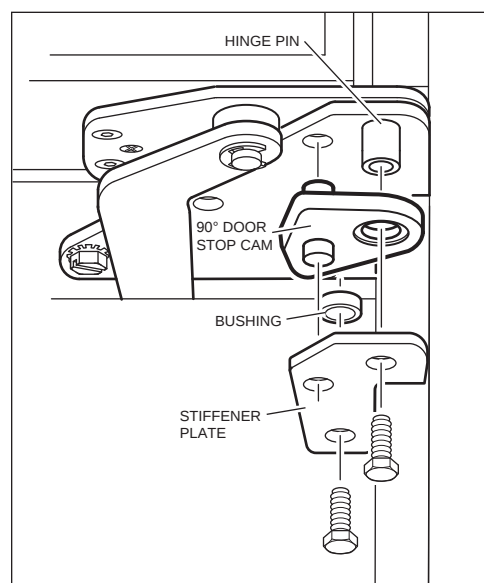

Figure 2-14. 90° Stop Cam
- With door closed, extract bolts, stiffener plate and bushing from lower cabinet hinge (See Figure 2-14).
- Place door stop cam up over hinge pin, making sure stub on cam fits into hole in lower cabinet hinge (See Figure 2-14).
- Reinstall bushing, stiffener plate and bolts onto lower cabinet hinge (See Figure 2-14).